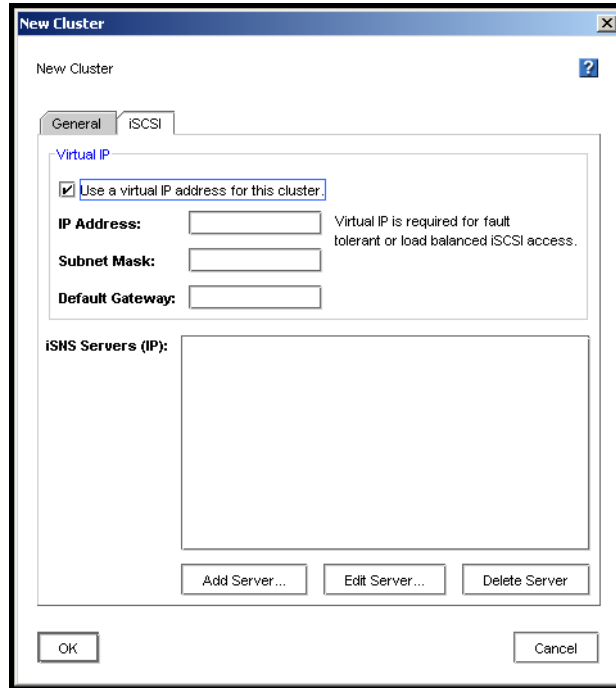

Figure 136. Configuring a Virtual IP Address for iSCSI
1. Click the iSCSI tab to bring it to the front, shown in Figure 136.